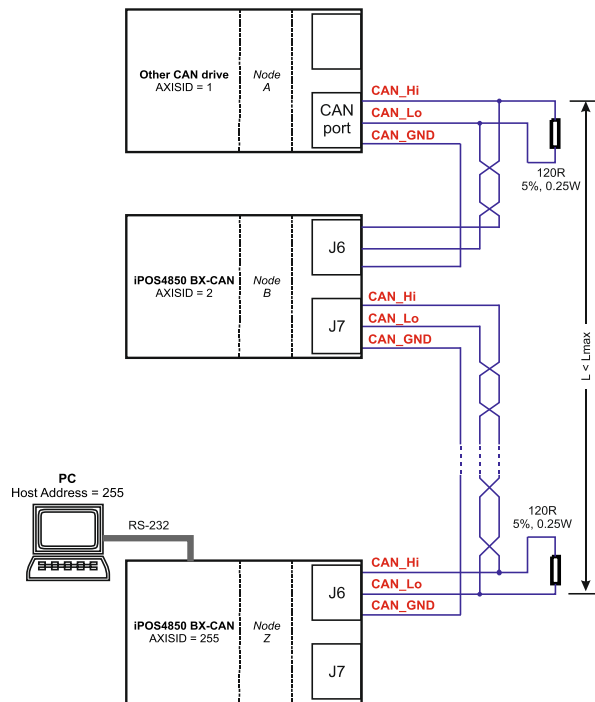

Figure 0.22. Multiple-Axis CAN network
1. The CAN network requires a 120-Ohm terminator. This is not included on the drive. **Figure 0.22** shows how to connect it on your network